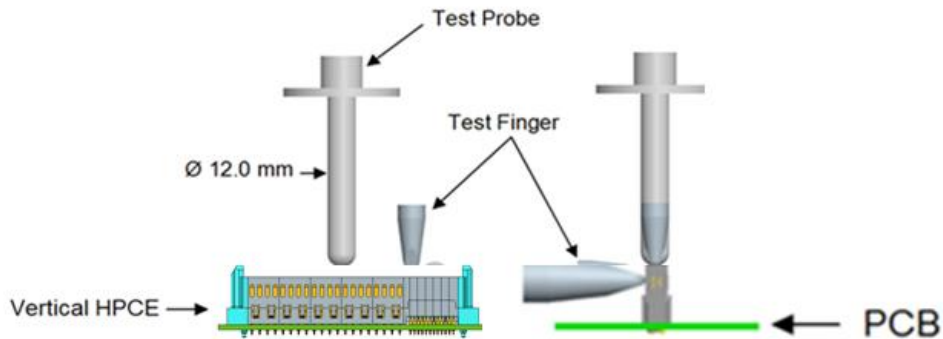

Figure 7
- **Test Finger** (Figure 7)
- **Test Probe** (Figure 7)